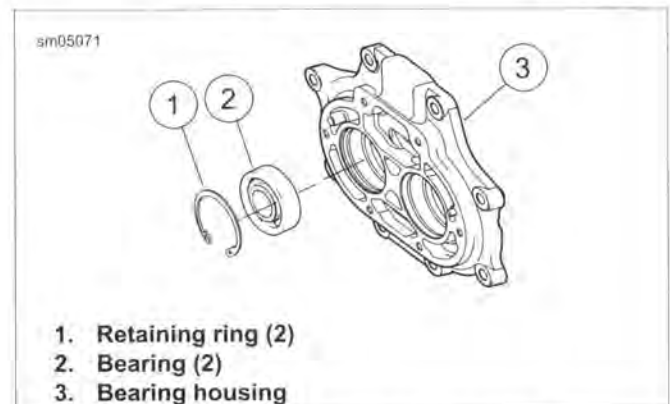

Figure 6-25. Bearing Housing Bearings
1. See Figure 6-25. Remove the retaining rings (2).
4. See Figure 6-25. Install beveled retaining ring (1) with the flat side against the bearing.